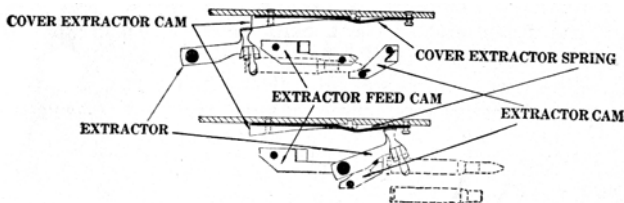

FIGURE 11.—Extracting and loading mechanism.
■35. FORWARD MOVEMENT OF BOLT (fig. 11).—When the bolt starts forward, the extractor is guided downward by the action of the extractor feed cam on the extractor cam plunger. This causes the extractor to force the cartridge down the T-slot in line with the chamber. The ejector knocks the empty case from the T-slot and holds the cartridge in line with the chamber. The upper end of the cocking lever is forced backward, causing the lower end to move forward away from the rear of the firing. If the pin is prematurely released, it is reengaged by the cocking lever and eased forward so that the striker cannot contact the cartridge primer until after the breach has been locked.
■37. LOADING AND LOCKING ACTION (figs. 11 and 14) .—During the latter part of the forward movement of the bolt, the extractor rises as the plunger moves along the top of the extractor cam. When the extractor rises, the ejector is cammed outward, leaving the cartridge in the chamber gripped by the T-slot. The extractor grips the first round in the belt and is held down firmly by the cover extractor spring, ready to extract the round. The breech lock is forced upward by the breech lock cam and locks the breech just before the recoiling parts reach the firing position. The breech lock engages in a recess cut in the bottom of the bolt and thus locks the bolt firmly to the barrel extension and against the rear end of the barrel.